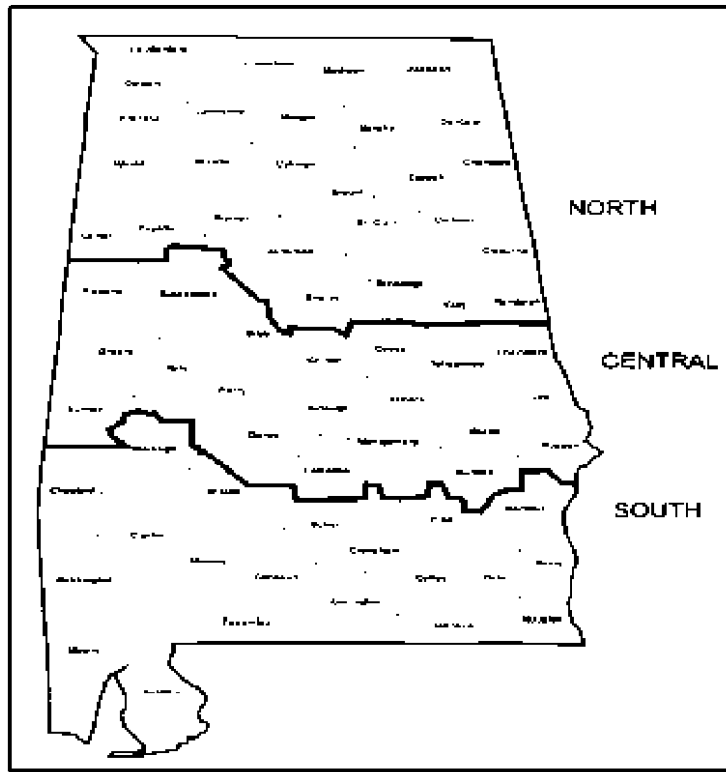

Figure TS-1 Geographical Areas for Species Adaptation in Alabama
- Plant the species specified. In the absence of plans and specifications, plant species and seeding rates may be selected by qualified persons from Table TS-1 and Figure TS-1.